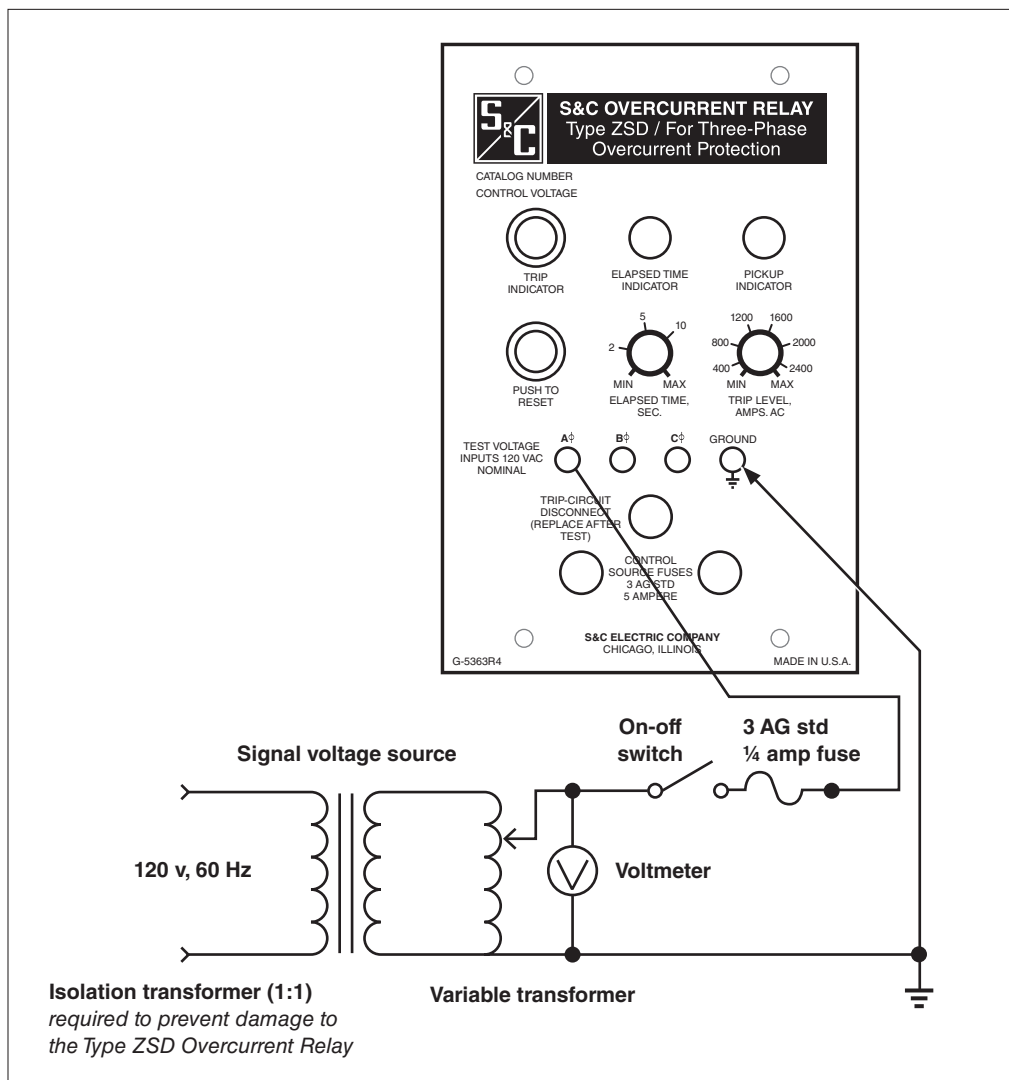

Figure 5. Test-circuit connection diagram.
- STEP 4.** Make the test circuit connections shown in Figure 5 on page 17.